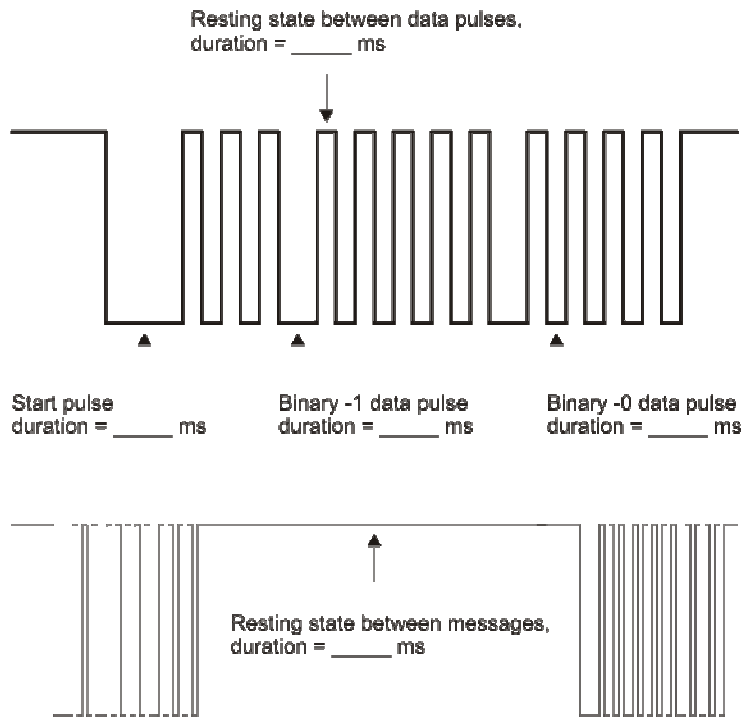

Figure 1-10
Figure 1-10 shows a timing diagram for an IR message from the remote. This diagram shows the timing while the 5 key on its digital keypad is pressed and held. Your task will be to fill in the blanks for each measurement using the numbers you have recorded in this activity. Remember that there are 1000 μ s in every 1 ms. Your measurements have been in microseconds, so you will have to divide each by 1000 to enter the millisecond measurements in the timing diagram.
- √ Use the measurements you have taken in this activity to fill in the millisecond measurements in Figure 1-10.